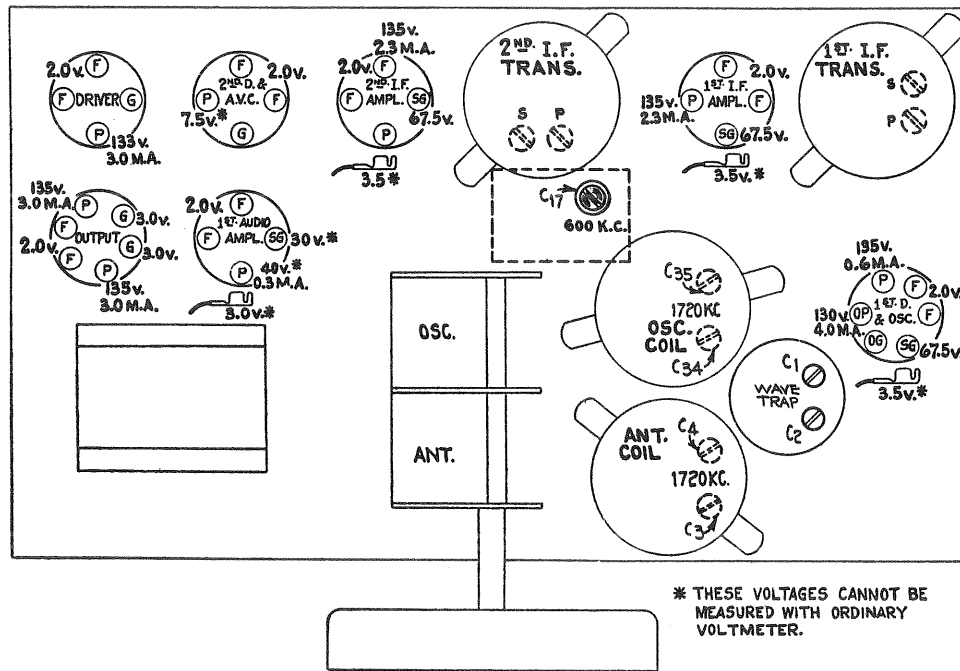

Figure 4—Line-Up Capacitor Locations and Voltage Values at Socket Contacts
To properly align this receiver, it is essential that a modulated R. F. oscillator of suitable frequency range such as Stock No. 9595, an output indicator, Stock No. 4317, and an alignment tool, Stock No. 4160, be available. Figure 4 shows the location of the various line-up capacitors.
The i-f amplifier comprises two stages including three transformers. The third transformer is untuned so that only a total of four circuits are to be adjusted. Refer to Figure 4 and proceed as follows:
- Then set the receiver band switch to its broadcast position, the Test Oscillator at 1720 kc., and the dial pointer at 1720. Adjust the oscillator output so that a slight glow will be obtained in the output indicator when the volume control is at its maximum position. Adjust the two trimmers, C-35 and C-4, under the two r-f coils, see Figure 4, until a maximum output is obtained. Then shift the Test Oscillator frequency to 600 kc. The trimmer capacitor, C-17, accessible from the top of the chassis, should now be adjusted for maximum output while rocking the main tuning capacitor back and forth through the signal. Then repeat the 1720 kc. adjustment.
Voltage and current values indicated at the Radiotron socket contacts on Figure 4 form a reference basis for test of the receiver. It is to be noted that all voltages are given with respect to chassis-ground, excepting those appearing across the filaments (F-F). The values shown are obtainable when the receiver is in normal operating condition. They do not take into account inaccuracies caused by current consumed in the voltmeter used for the tests; the lower the voltmeter resistance, the lower the degree of accuracy. Allowances must therefore be made, dependent upon the type of test instrument used, for the loading effect of the voltmeter on the circuit.